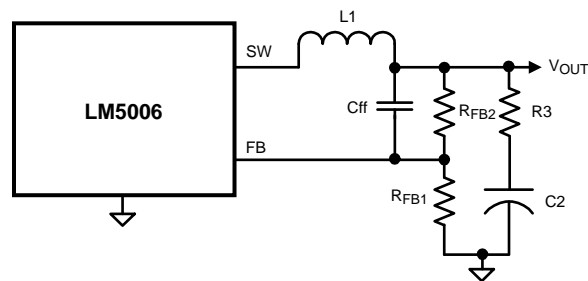

Figure 38. Reduced Ripple Configuration
**a) Reduced ripple configuration:** In Figure 38,  $C_{ff}$  is added across  $R_{FB2}$  to AC-couple the ripple at  $V_{OUT}$  directly to the FB pin. This allows the ripple at  $V_{OUT}$  to be reduced to a minimum of 25 mVp-p by reducing  $R_3$ , since the ripple at  $V_{OUT}$  is not attenuated by the feedback resistors. The minimum value for  $C_{ff}$  is determined from: